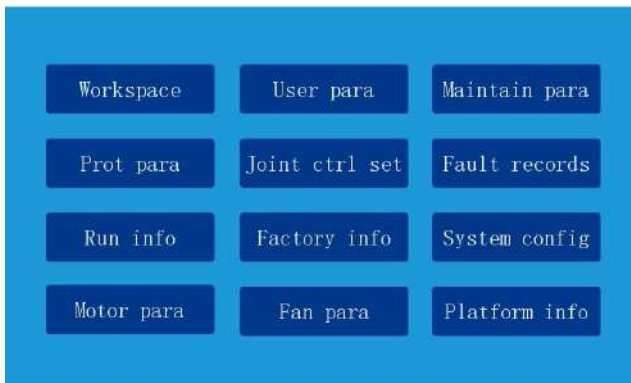

Figure 4-4 Menu interface
4. Click **Menu** on the interface. The page shown in Figure 4-4 is displayed.